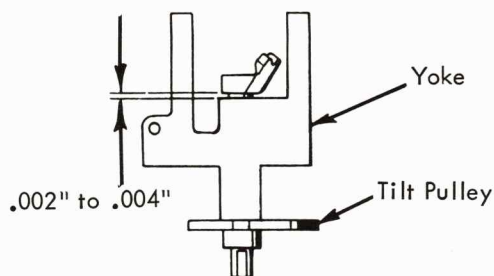

FIGURE 47. Tilt Tube End Play Adjustment
1. Tilt Tube End Play - (machines prior to gearless tilt). The tilt pulley should be adjusted up or down on the tilt tube so that .002" to .004" end play exists in the tilt tube (Fig. 47).